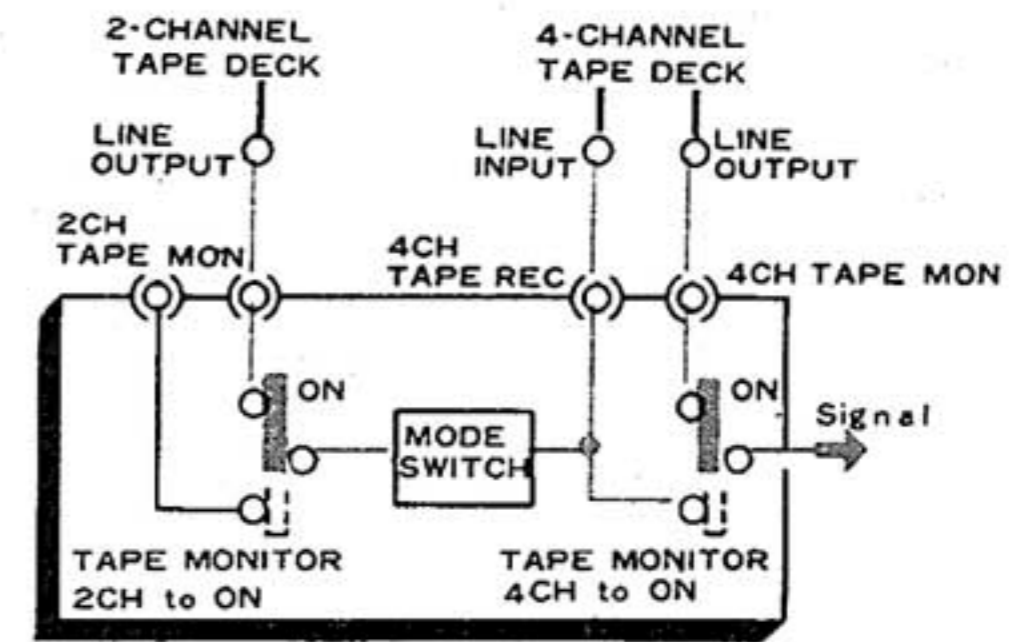

Fig. 24
1. As shown in Fig.24, connect the 2-channel tape deck for playback to the 2CH TAPE terminals and the 4-channel tape deck for recording to the 4CH TAPE 1 terminals. Refer to the section on Tape Deck Connection for connecting method. See page 9.